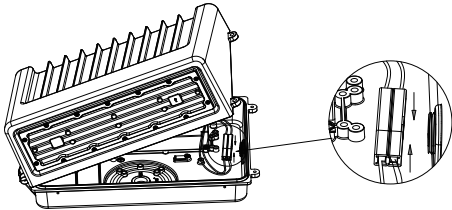

Fig. 1-5A
5. Connect the quick connect terminal, then screw the fixture with bottom plate.(Fig. 1-5A&B)